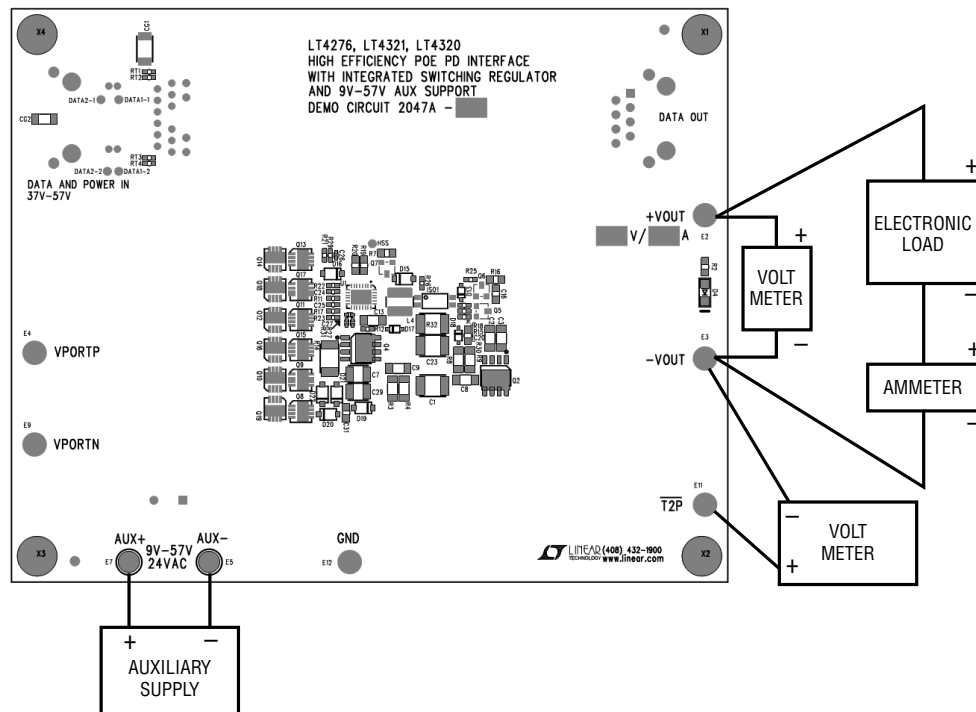

Figure 8. Setup Diagram for Auxiliary Supply Input
1. Place and connect test equipment (voltmeter, ammeter, oscilloscope, and electronic load) as shown in Figure 8.
3. Connect the output of the auxiliary supply to the DC2047A as shown in Figure 8. Turn on the auxiliary supply and set its current limit to 1A. Then increase its output voltage to 48V.
6. Verify $\overline{T2P}$ response with a voltmeter as shown in Figure 8. The $\overline{T2P}$ response during auxiliary power operation is: Logic Low.